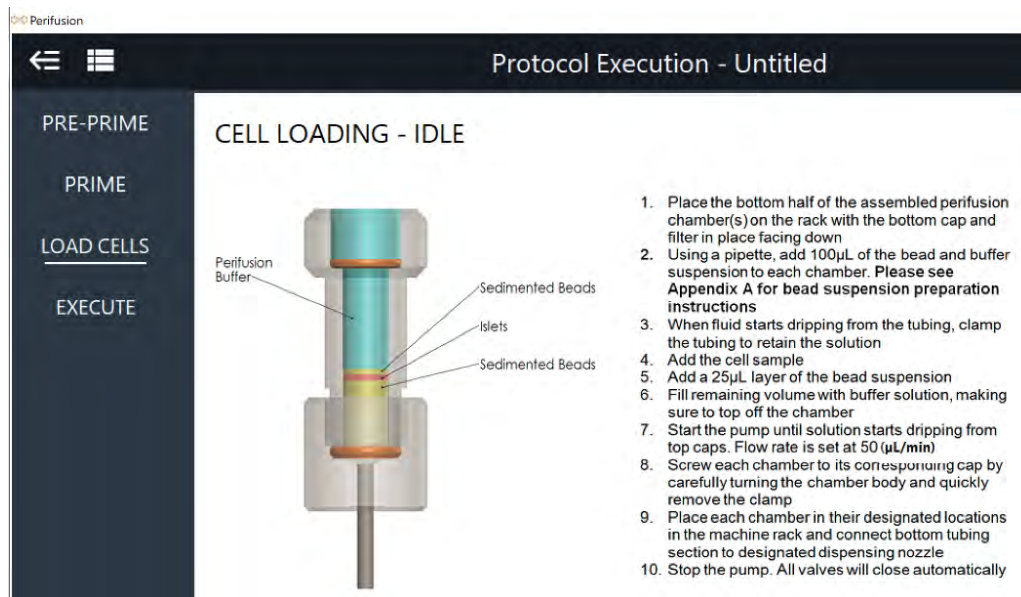

Figure 50: Cell Loading
3. Add 100 - 150µL of premixed bead suspension to each chamber (**Please see Appendix A for bead suspension preparation instructions**). Do not add more than ¼ chamber of sedimented beads (Figure 50). It is important to have a column of PB in the chamber to trap any bubble floating. If necessary, remove any excess of beads with a pipette. If there is no PB on top of the sedimented beads, adding more PB to the chamber will facilitate the removal of excess beads.